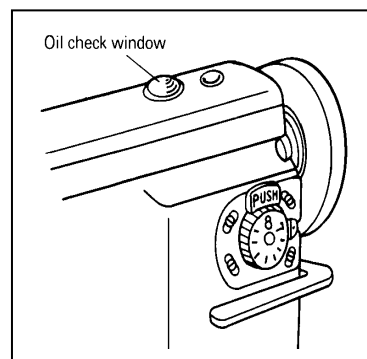

Fig.7
10、Condition of oil lubrication (Fig.7):